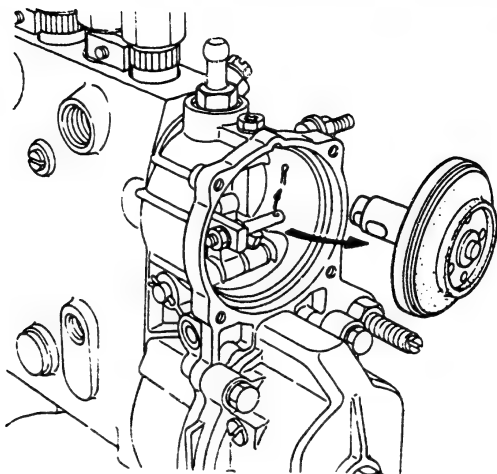

Fig. 32 Removing the diaphragm assembly
12. Remove splitpin (9) from connecting bolt (5) and then remove diaphragm assembly (10). (Fig. 32)